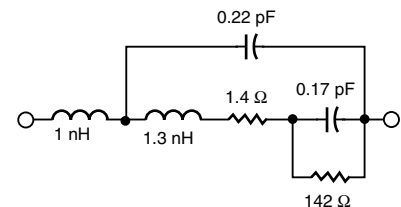
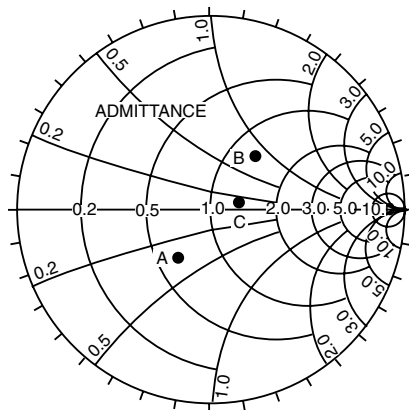

Figure 2. Diode equivalent circuit
Figure 3. Diode matching
The diode equivalent circuit is shown in Figure 2. At 12 GHz S_{11} is 0.486, 41.8° for 2.5 mA rectified current. This corresponds to $0.57-j0.45$ admittance normalized to $70\ \Omega$. Figure 3 shows how a 0.273 wavelength series line transforms this admittance (A) to the 1.4 ($50\ \Omega$) conductance circle (B). The susceptance is 0.96 . The $70\ \Omega$ shunt open line provides the 0.96 negative susceptance needed to complete the match (C). The electrical length is: